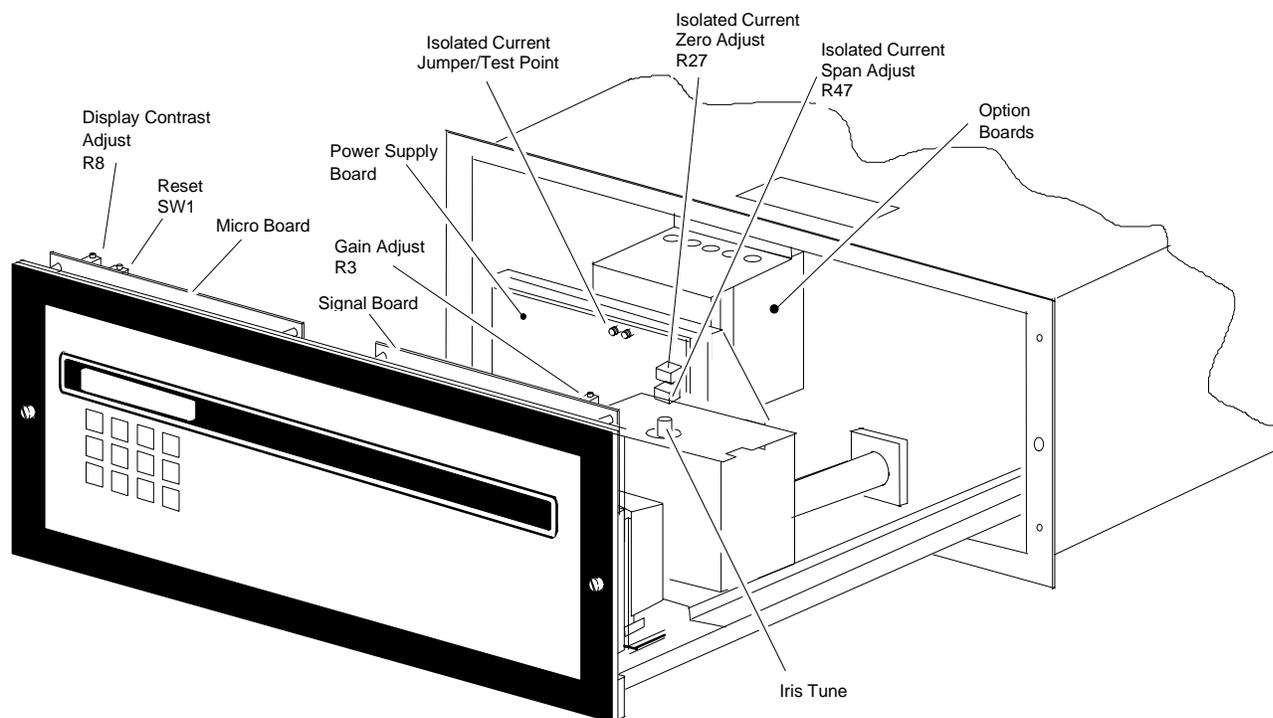

FIGURE 3-1 MODEL 890 ADJUSTMENTS
The display consists of a 16-character backlit Liquid Crystal Display. The contrast on the display may be adjusted so that the display can be read from any vertical angle. This adjustment is made by loosening the two screws on the front of the case and sliding the front panel forward, then turning the potentiometer (R8) to adjust the contrast until the best view of the display is obtained. See Figure 3-1.
2. Press and release the RESET push-button switch on the Micro Board (see Figure 3-1).